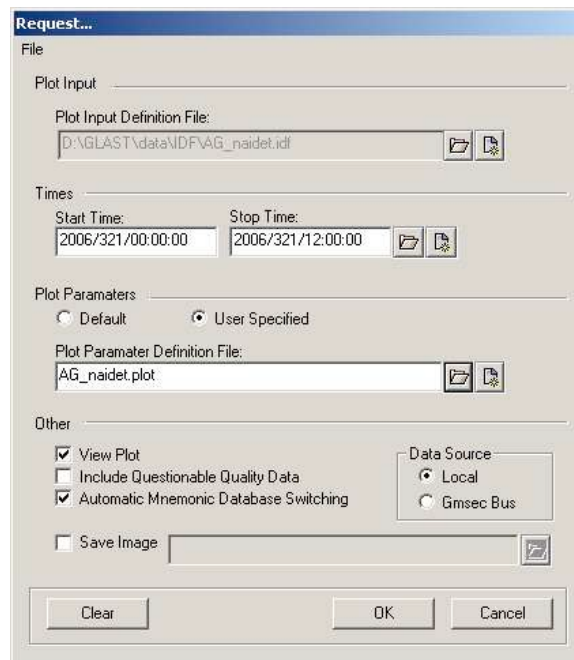

Figure 30: Plot Request Specification Screen
- Click the “Add” button to activate the plot “Request...” specification screen (see *Figure 30*).
- Type a filename for the Plot Parameter Definition File (PPDF) or leave the PPDF field blank (to use the default filename) (see *Figure 30*).